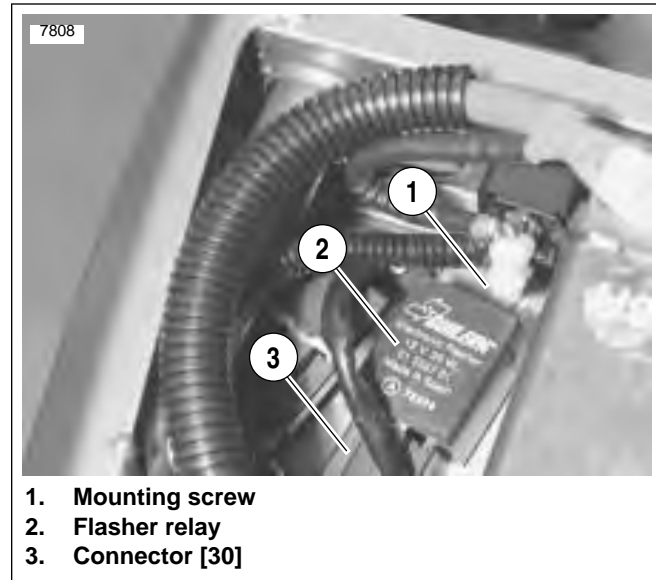

Figure 7-70. Turn Signal Flasher
4. See Figure 7-70. Remove screw and flasher relay from frame tray.
1. See Figure 7-70. Connect relay connector [30] to new turn signal flasher relay.